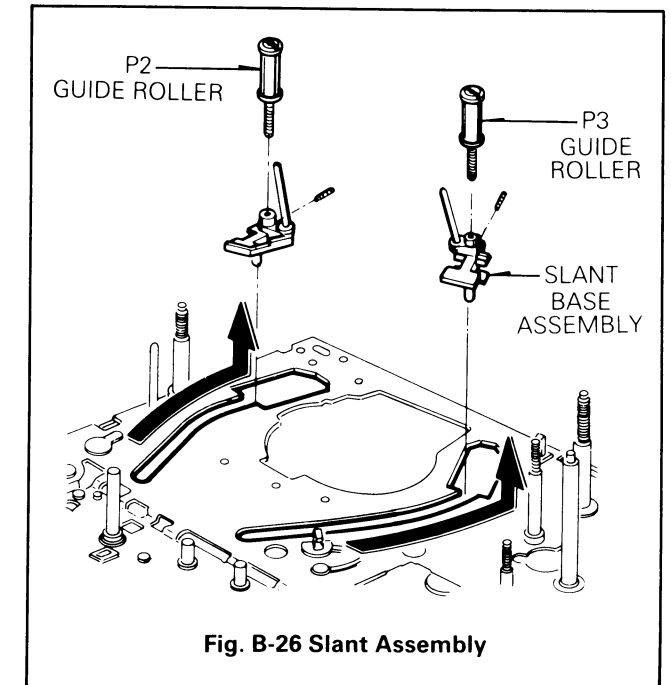

Fig. B-26 Slant Assembly
26. P2 and P3 Slant Assembly(Fig. B-26)